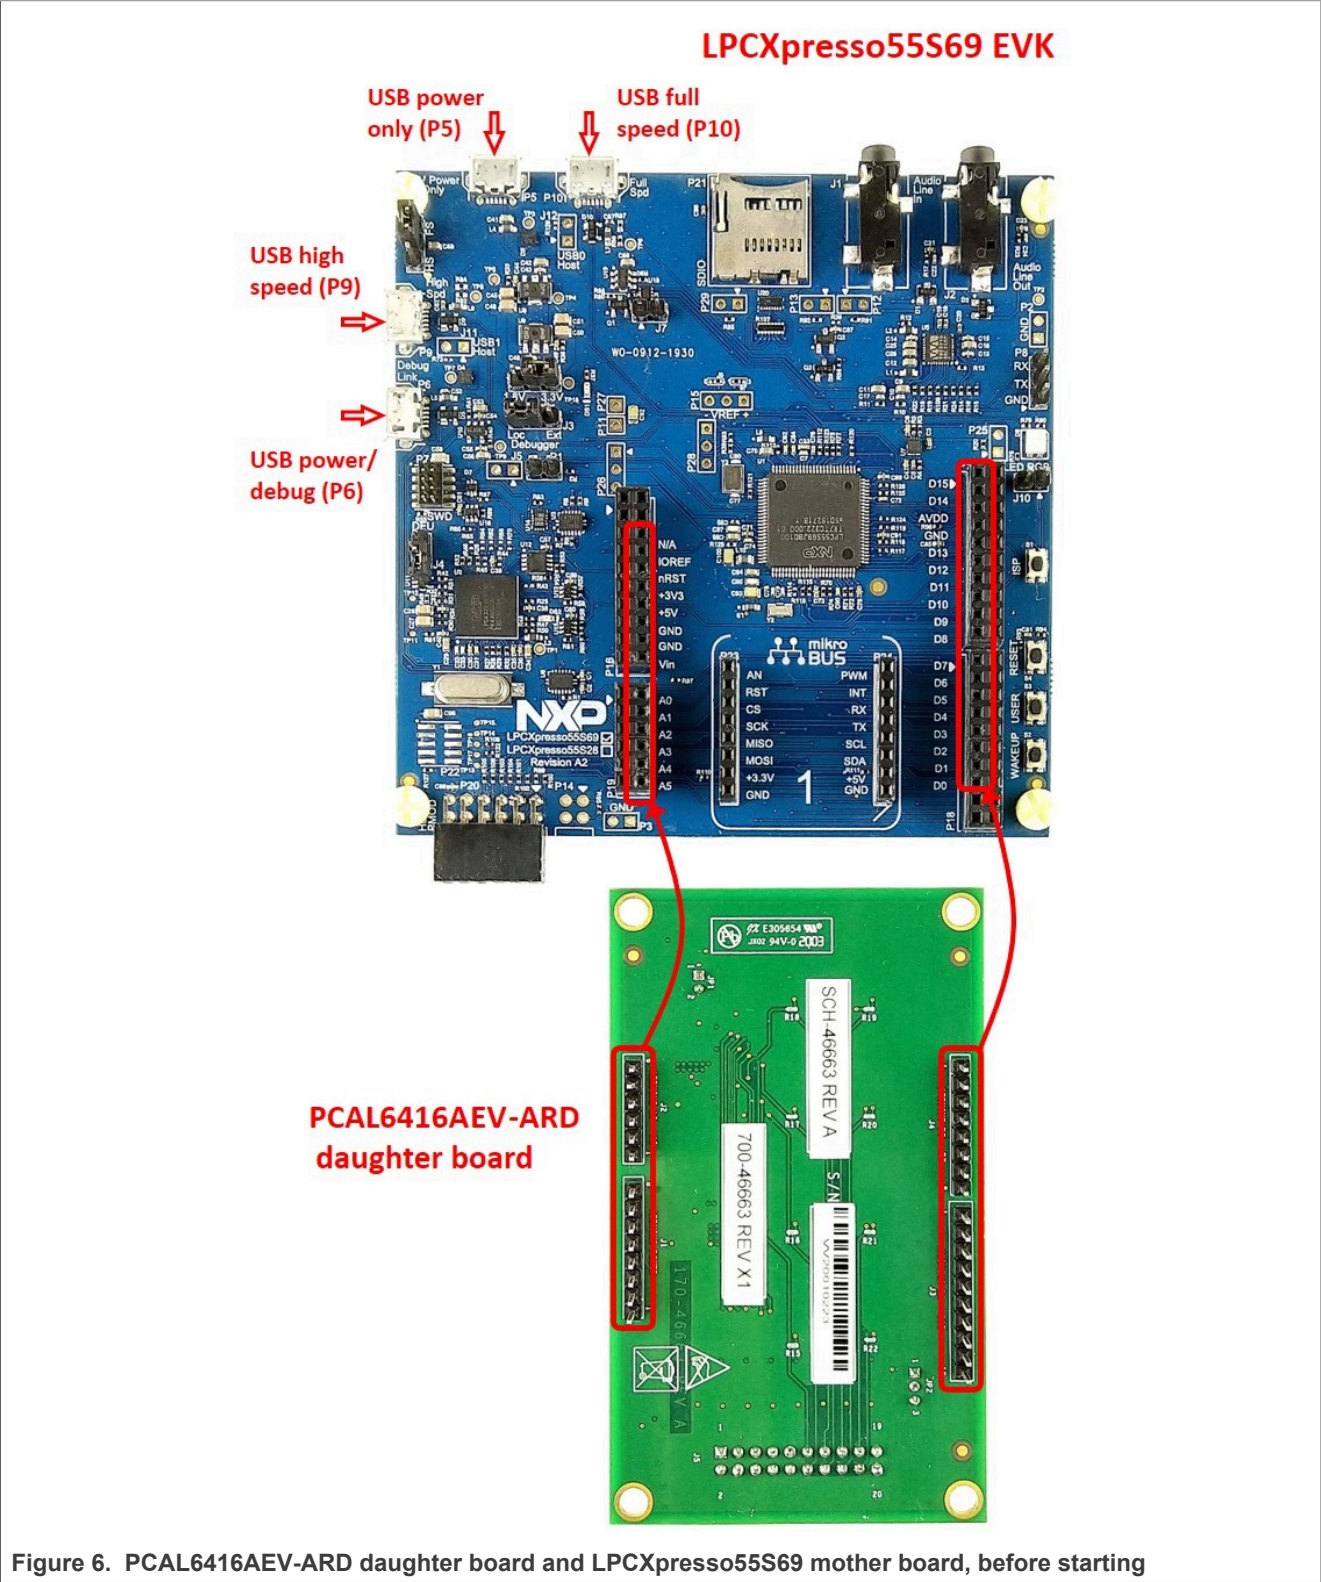

Figure 6. PCAL6416AEV-ARD daughter board and LPCXpresso55S69 mother board, before starting
Figure 6 shows the required hardware for operation of the PCAL6416AEV-ARD and LPCXpresso55S69 EVK board. This configuration consists of:
The following steps describe how to assemble, program, and operate the configuration shown in Figure 6.
1. Insert the PCAL6416AEV-ARD daughter card to P16 – P19 connectors located on LPCXpresso55S69 development board (see the marked pins of P16 – P19, Figure 6)